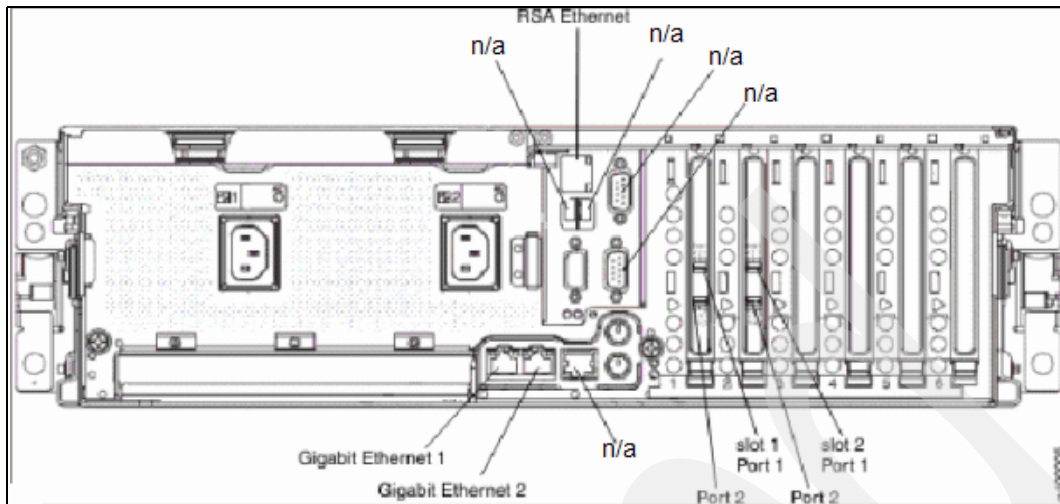

Figure 4-1 TS7520 Virtualization Engine (3954-CV6)
The TS7520 Virtualization Engine (3954-CV6) is based on a System x server. The Peripheral Component Interconnect (PCI) slots 1 through 6, shown in Figure 4-1 on page 102, contain the dual ported Qlogic (QLA2462) Fibre Channel (FC) adapters with Lucent Connectors (LC). The 3954-CV6 has the following features:
- One HBA and two ports required for Limited Edition¹ (LE)
- Two HBAs and four ports required for Enterprise Edition (EE)